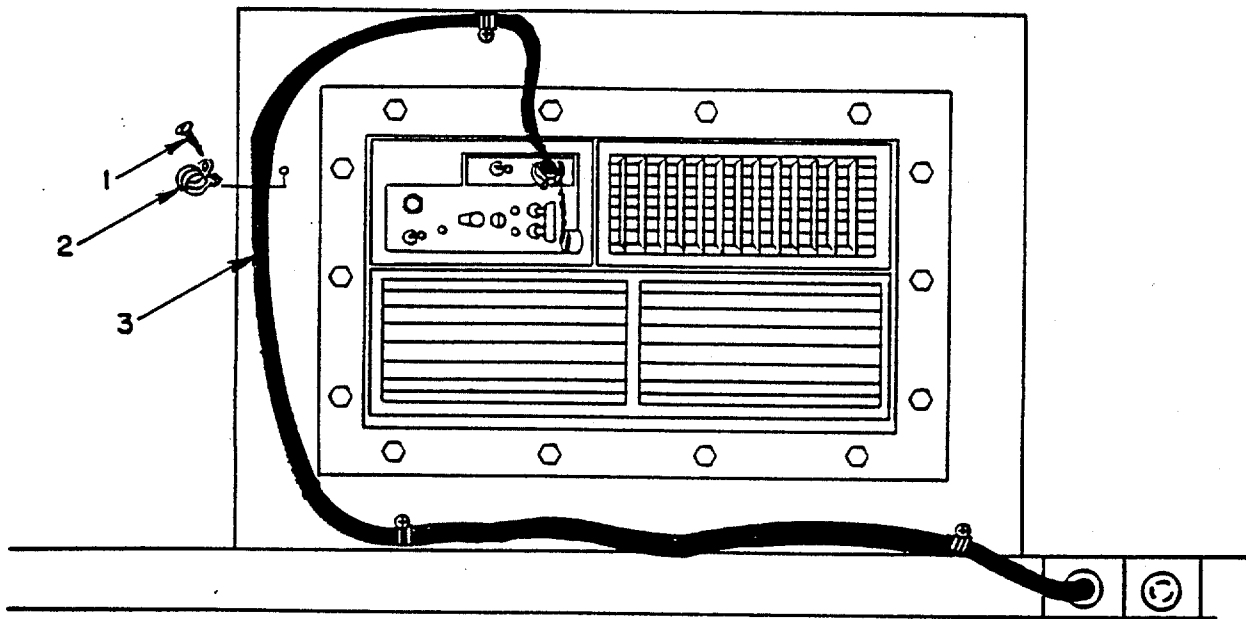
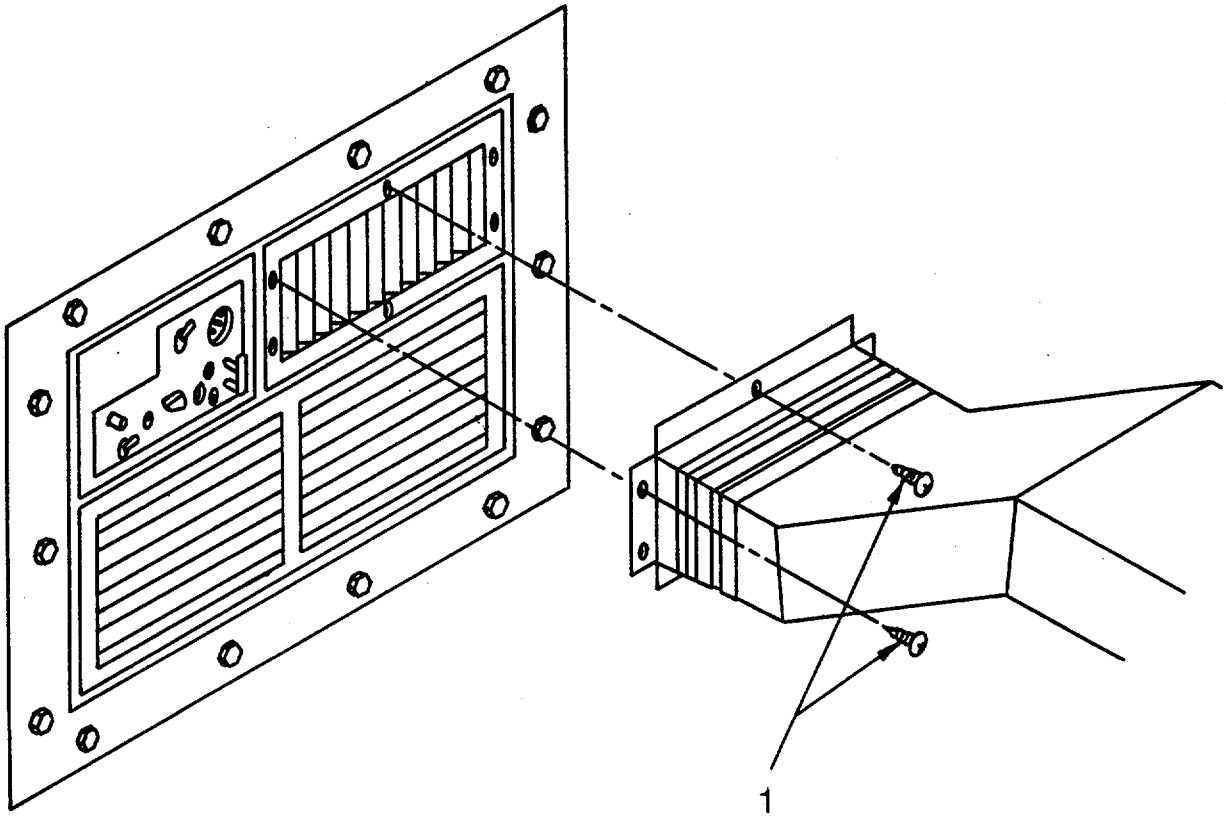
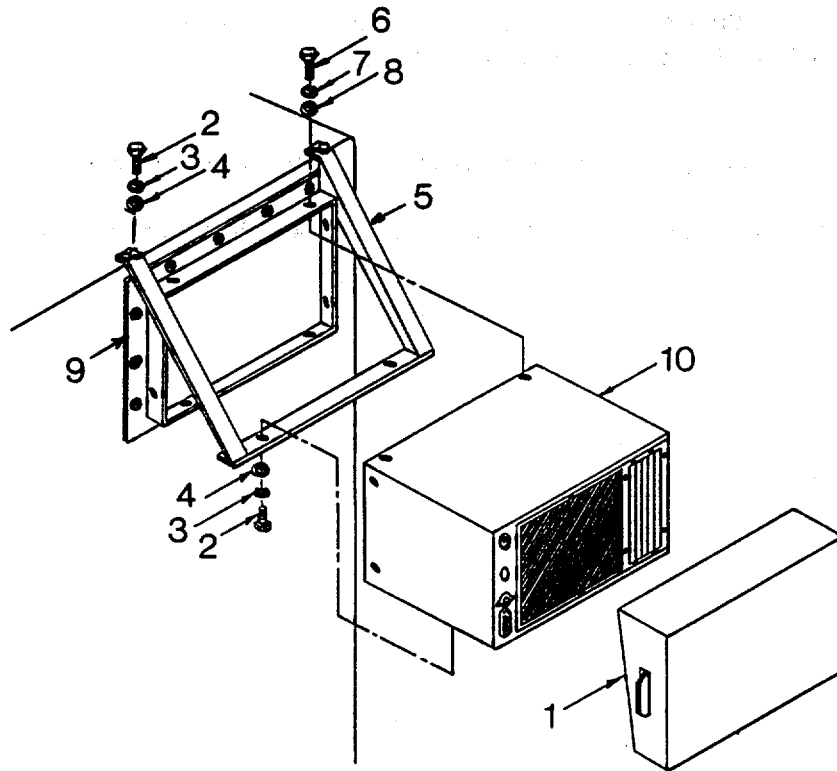
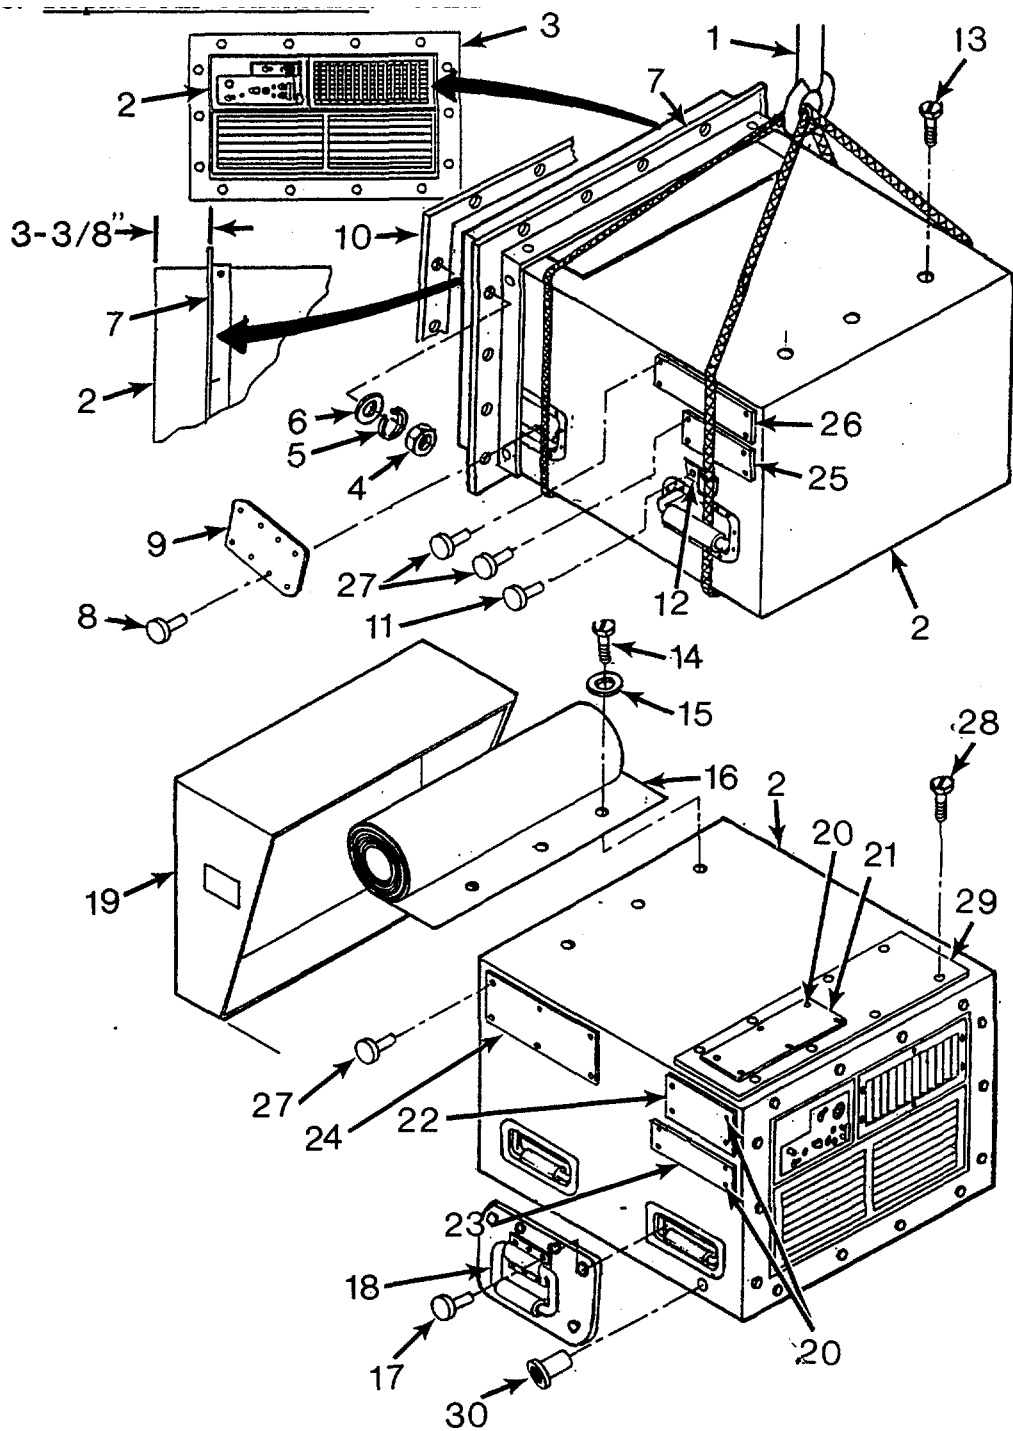

Figure 4-39. Air Conditioner
Figure 4-40. Curbside Air Conditioner
Figure 4-41. Air Conditioner Support Frame
Figure 4-42. Air Conditioner, Replace
a. Inspect. (See Figures 4-39, 4-40 and 4-41.)
(1) Inspect air conditioner on front wall of shelter for security of mounting. Inspection procedures are identical for both air conditioners.
(2) Inspect air conditioner electrical power cable for proper connection to wall receptacle and to air conditioner.
(3) Inspect air conditioner power electrical power cable for breaks, cracks, cuts or age-checks on the rubber insulation.
(4) Inspect cable clamps for security of mounting and ensure that clamps do not pinch or chafe cable.
(5) Inspect controls for proper operation. Refer to TM 5-4120-378-14 for proper operation and test procedures.
(6) Inspect air conditioner main body and ductwork for missing rivets, dents, breaks, corrosion, and proper connection of adapter boot to air duct and to discharge grill of air conditioner. Ductwork exists on curbside air conditioner only.
(7) Inspect mounting bracket assembly for security of mounting and for structural damage such as separated or broken weld joints.
- (1) Remove air conditioner screws (1, Figure 4-39) and cable clamps (2).
- (2) Disconnect power cable (3), from air conditioner and shelter receptacles.
- (3) Remove screws (1, Figure 4-40) from curbside air conditioner only.
- (4) Remove cover (1, Figure 4-41).
- (5) Remove bolts (2), lockwashers (3), flat washers (4), and support frame (5).
- (6) Remove bolts (6), lockwashers (7), and flat washers (8).
- (7) Cut RTV sealant between collar (9) and air conditioner (10) (one layer).
- (8) Attach sling (1) to air conditioner (2) as shown in Figure 4-42.
- (9) Attach sling (1) to forklift and raise until weight of air conditioner (2) is carried by sling (1).
(16) Drill out rivets (11) and remove cover latches (12) from old air conditioner (2).
(17) Remove screws (13) from old air conditioner (2).
(18) Remove screws (14), flat washers (15), and canvas cover (16) from replacement air conditioner (2).
(19) Drill out rivets (17) and remove front handles (18) from replacement air conditioner (2).
(20) Position cover (19) on replacement air conditioner (2). Locate cover latch positions and drill mounting holes. Install cover latches (12) on replacement air conditioner with rivets (11).
(21) Install canvas cover (16), flat washers (15), and screws (14) on old air conditioner (2).
(22) Install screws (13) on replacement air conditioner (2).
(23) Chisel off rivets (20) and remove data plates (21), (22), and (23) from replacement air conditioner (2) and relocate to positions (24), (25), and (26) shown in Figure 4-42 and install with rivets (27).
- (24) Install rivets (20) in old data plate mounting holes on replacement air conditioner (2).
- (25) Apply RTV sealant (3, Appendix E) to handle covers (9) and install on replacement air conditioner (2) with rivets (8).
- (26) Slide collar (7) onto front of replacement air conditioner (2) and position 3 3/8 inches from the front as shown in Figure 4-42.
- (27) Drill two 1/2 inch holes on each side, top, and bottom of replacement air conditioner (2) using collar (7) as a template.
- (28) Remove collar (7) from replacement air conditioner (2).